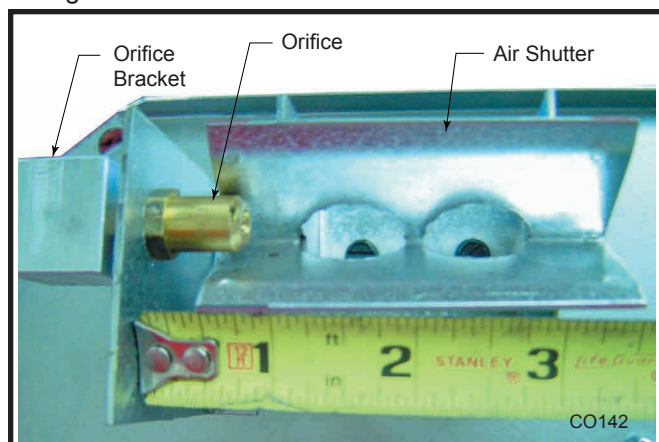

Fig. 75 The air shutter setting is 1/2" (13 mm) from the orifice bracket to the edge of the air shutter.
5. The air shutter is factory set according to Table 3 and should not need adjustment. The air shutter opening may be verified by measuring as shown in Figure 75.